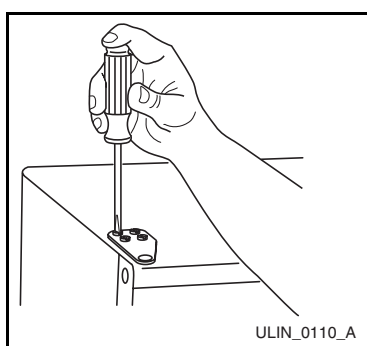

Figure 36
10. Place door on lower hinge pin. Align flat edge of top hinge with outer edge of unit and fasten upper hinge to unit (four screws) (**Figure 36**). Partially tighten screws until door is aligned.